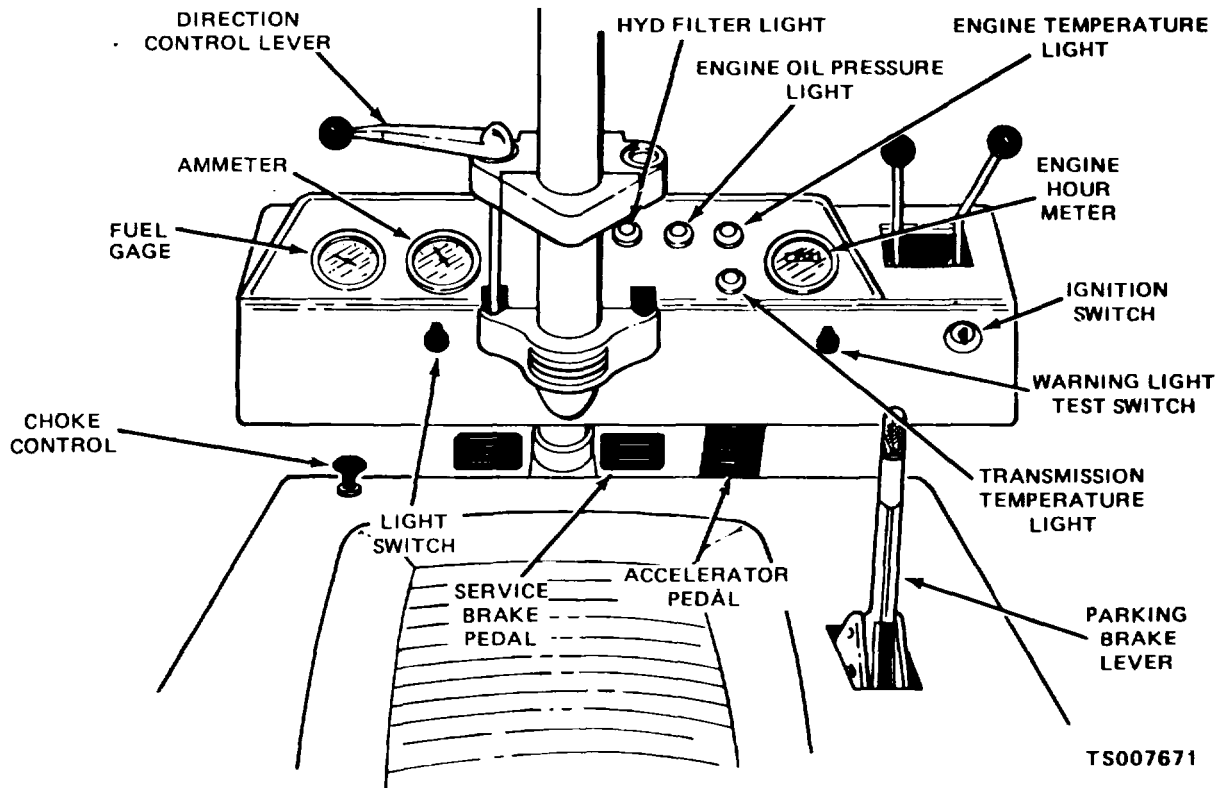

Figure 2-1. Driving Controls and Instruments
*b. Starting.* Refer to figure 2-1 and start the truck in the following manner:
(1) Pull up on parking brake lever to make sure it is fully engaged.
(2) Check that direction control lever is in